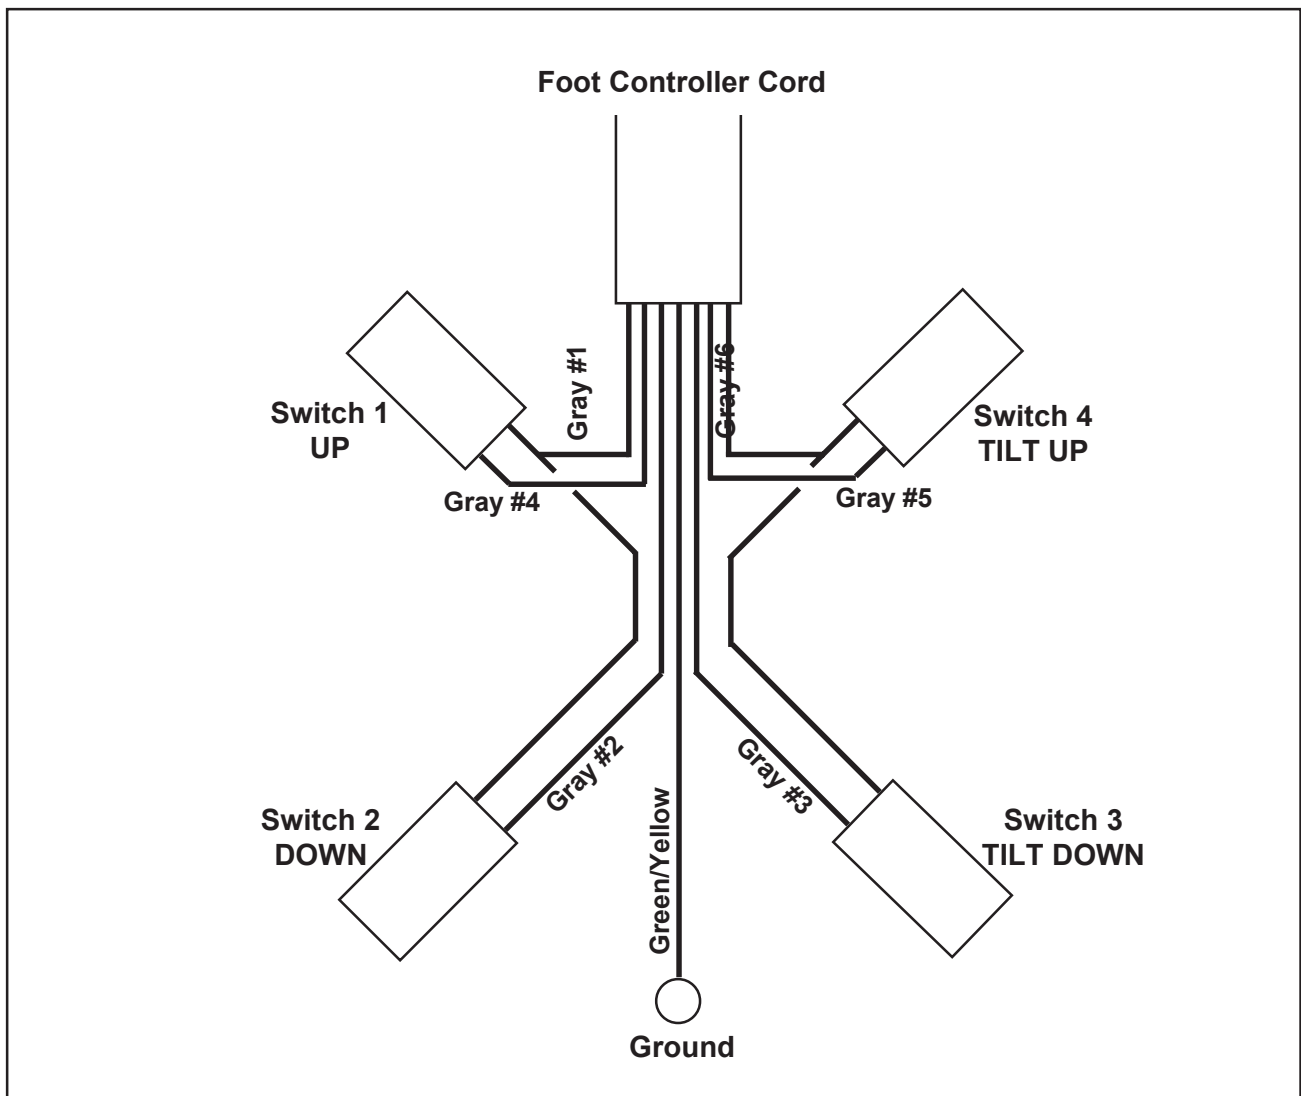

Figure 24. Foot Controller Wire Connections in Foot Controller
12. With a small flat-blade screwdriver, disconnect the **#1** wire from Switch **1** (Figure 24). **Note:** The connector on this wire also holds another gray wire that goes to Switch **2**. (Disregard the number on this wire.)
3. With a small flat-blade screwdriver, connect the **#4** wire to Switch **1** as shown in Figure 24.
4. Connect the original wires to the switch. Refer to Figure 24.